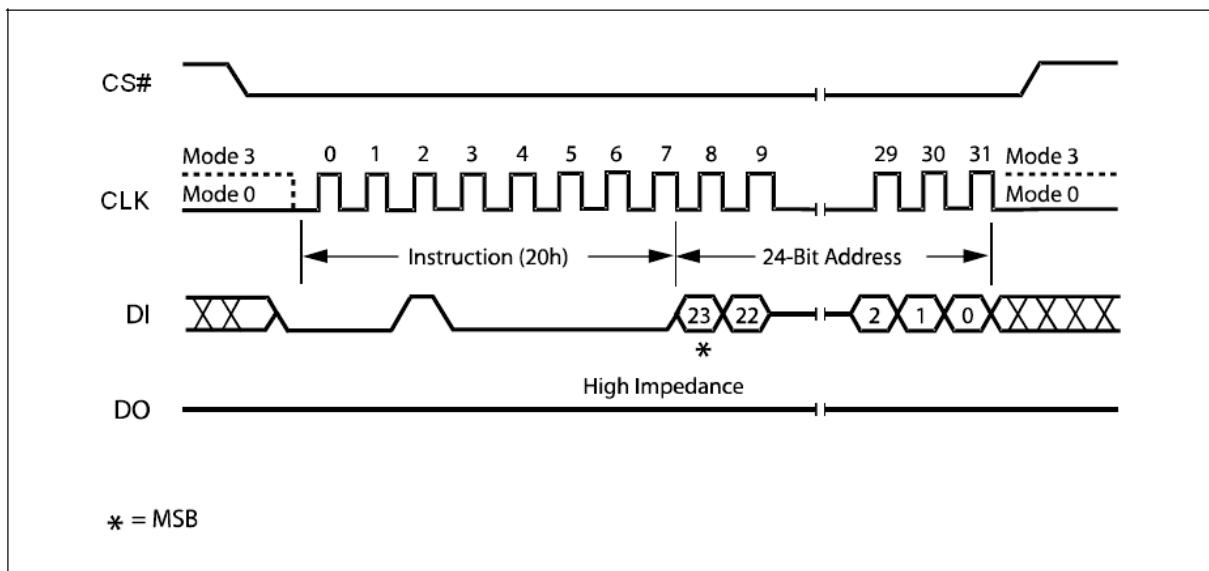

Figure 13. Sector Erase Instruction Sequence Diagram
The instruction sequence is shown in Figure 13. Chip Select (CS#) must be driven High after the eighth bit of the last address byte has been latched in, otherwise the Sector Erase (SE) instruction is not executed. As soon as Chip Select (CS#) is driven High, the self-timed Sector Erase cycle (whose duration is  $t_{SE}$ ) is initiated. While the Sector Erase cycle is in progress, the Status Register may be read to check the value of the Write In Progress (WIP) bit. The Write In Progress (WIP) bit is 1 during the self-timed Sector Erase cycle, and is 0 when it is completed. At some unspecified time before the cycle is completed, the Write Enable Latch (WEL) bit is reset.